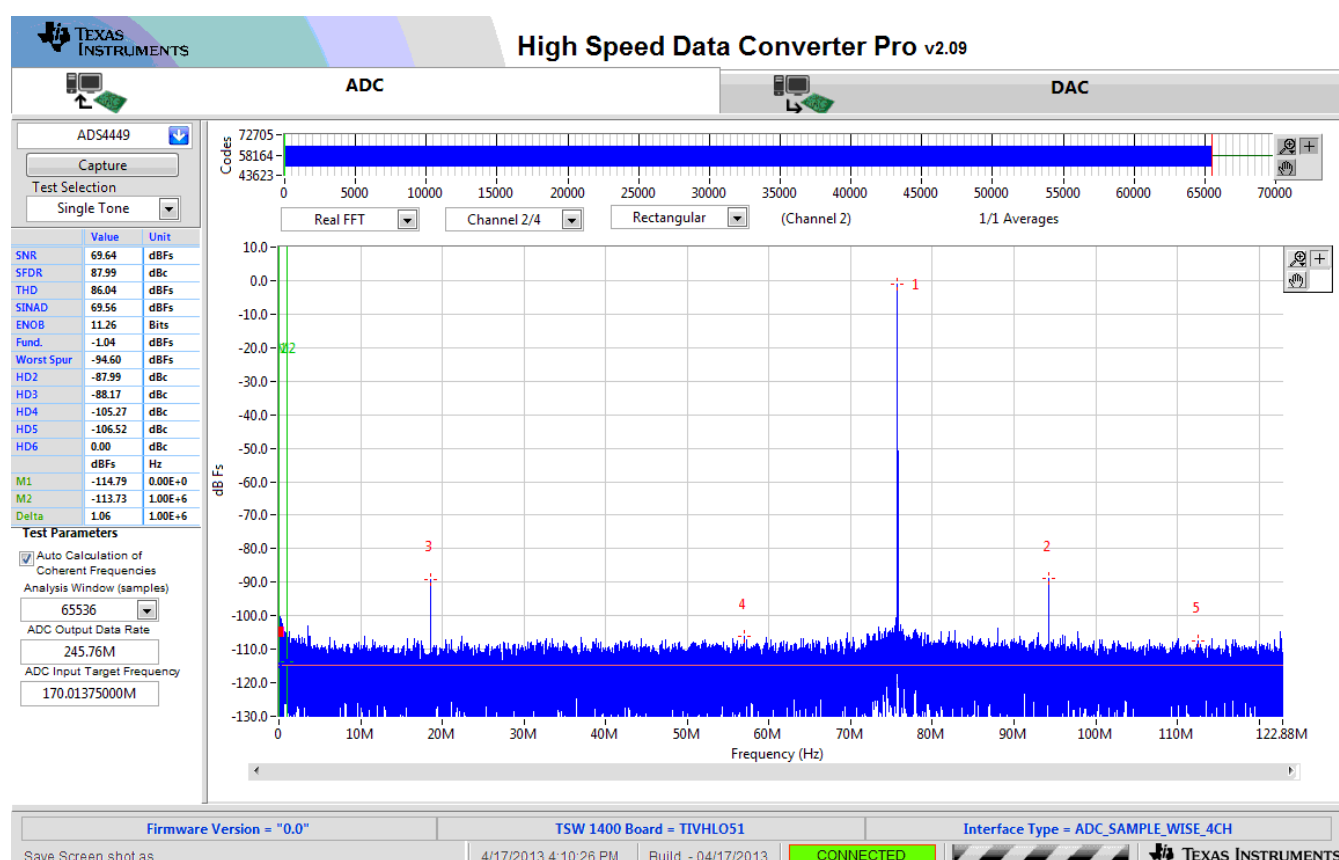

Figure 11. ADS4449 14-bit Operating Mode, Single Tone Test Result: $F_s = 245.76$ MSPS, $F_{in} = 170$ MHz
4. Select the number of sample points (and resulting number of FFT bins). The example shown in Figure 11 has 65536 samples.
5. Enter the ADS4449 sampling rate. The example shown in Figure 11 has the sample rate set at 245.76 MSPS.
6. Enter the input frequency desired. If the clock and input frequency signal generators are synchronized, then make sure the checkbox for coherent frequency is checked and set the input frequency signal generator to the input frequency displayed. The example shown in Figure 11 has the input frequency set at 170 MHz.
- Observe an FFT result similar to that of Figure 11.